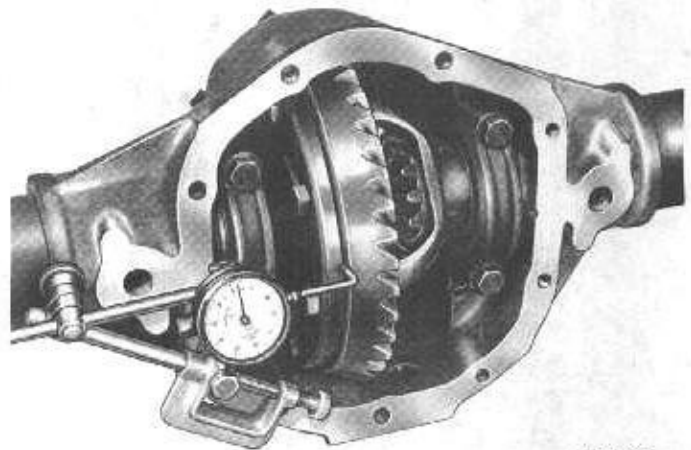

Fig. 8—Measuring Drive Gear Runout
(3) Measure for differential side play. Position a screwdriver or pinch bar between left side of axle housing and differential case flange, then using a prying motion determine if side play is present. THERE SHOULD BE NO SIDE PLAY.
(4) In preparing to measure drive gear runout on differential case, (provided no side play was found) mount a dial indicator tool C-3339 on pilot stud C-3288, and load the indicator stem slightly when plunger is at right angles to back face of drive gear (Fig. 8).
(5) Measure drive gear runout by turning drive gear several complete revolutions and reading dial indicator. Mark drive gear and differential case at point of maximum runout. The marking of differential case will be very useful later in checking differential case runout. Total indicator reading should be no more than .005 inch. If runout exceeds .005 inch the differential case may be damaged. A test for case runout will be described later.